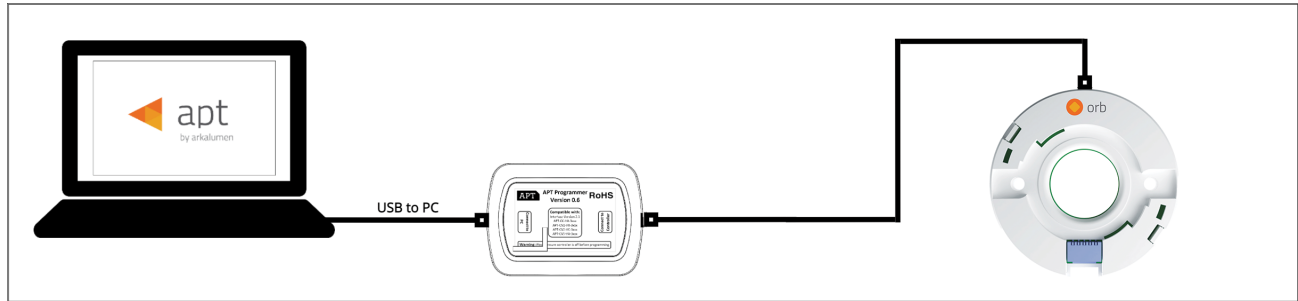

Figure 1: Wiring Diagram
1. Connect the APT Programmer to the PC and controller as shown in Figure 1.
2. Click on the provided link to download the **APT Programmer Interface** folder. Figure 1: Wiring Diagram